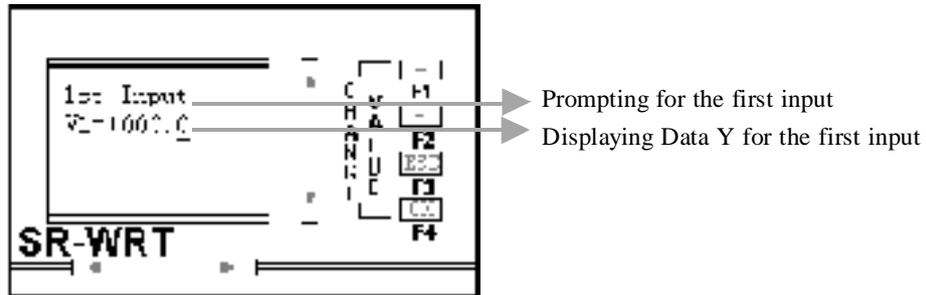
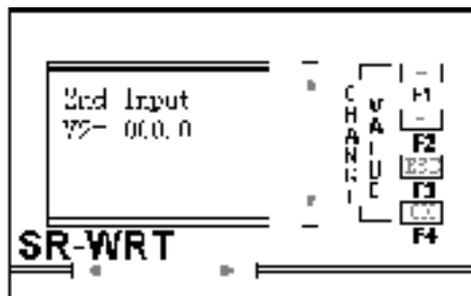

Fig. 10.26 Setup Interface of Input1
Fig. 10.27 Setup Interface of Input2
In the above example, when IA2 is selected, press OK key to confirm the selection of the analogue input port and enter into Fig. 10.26 Setup Interface of Input1. Press ESC key to give up the selection and return to Fig. 10.4.
In Fig. 10.26, if the current environment temperature is 87°C, change V1=+000.0 to V1=+087.0 by LEFT, RIGHT, +, - and press OK key to confirm to enter Fig. 10.27 Setup Interface of Input2.
**Notes:** In Fig. 10.26, it already enters the demarcation of A and B value and it is impossible to exit via ESC key.
In Fig. 10.26 after finish the setup of Input1, put SR in the environment whose temperature is 70°C (may be other temperature). After the temperature sensor is stable, change V2=+000.0 to V1=+070.0 (the environment temperature) by LEFT, RIGHT, +, - and press OK key to finish the input of the Input 2. Thus the demarcation of the value of A and B. And at this time the interface is displayed as Fig. 10.28.